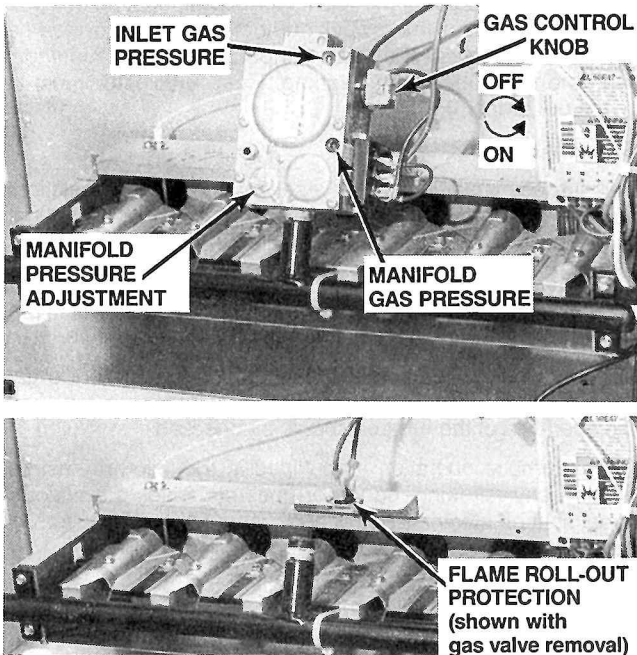

Fig. 9 — Gas Pressures.
6. Turn the gas control valve knob clockwise to "OFF" position. Do not force. See Fig. 9.
7. Wait five (5) minutes to clear out any gas.
8. Turn gas control valve knob counter clockwise to "ON." See Fig. 9.
4. Turn the gas control clockwise to "OFF" position. Do not force. See Fig. 9.
To adjust the pressure regulator, remove the adjustment screw or cover on the gas valve. Turn out (counterclockwise) to decrease pressure, turn in (clockwise) to increase pressure. Only small variations in gas flow should be made by means of the pressure regulator adjustment. In no case should the final manifold pressure vary more than plus or minus 0.3 inches water column from the specified pressure. Any major changes in flow should be made by changing the size of the burner orifices. (Fig. 9)